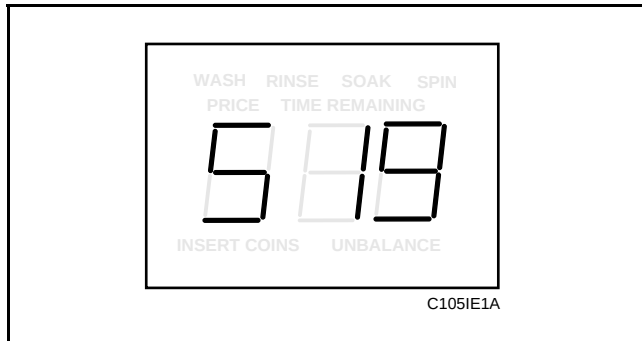

Figure 22
2. While pressing and holding the PERM PRESS keypad with one hand, press the COLD keypad with the other hand. Programmable option number one, “Slg”, will appear in the VFD. See **Figure 22**.